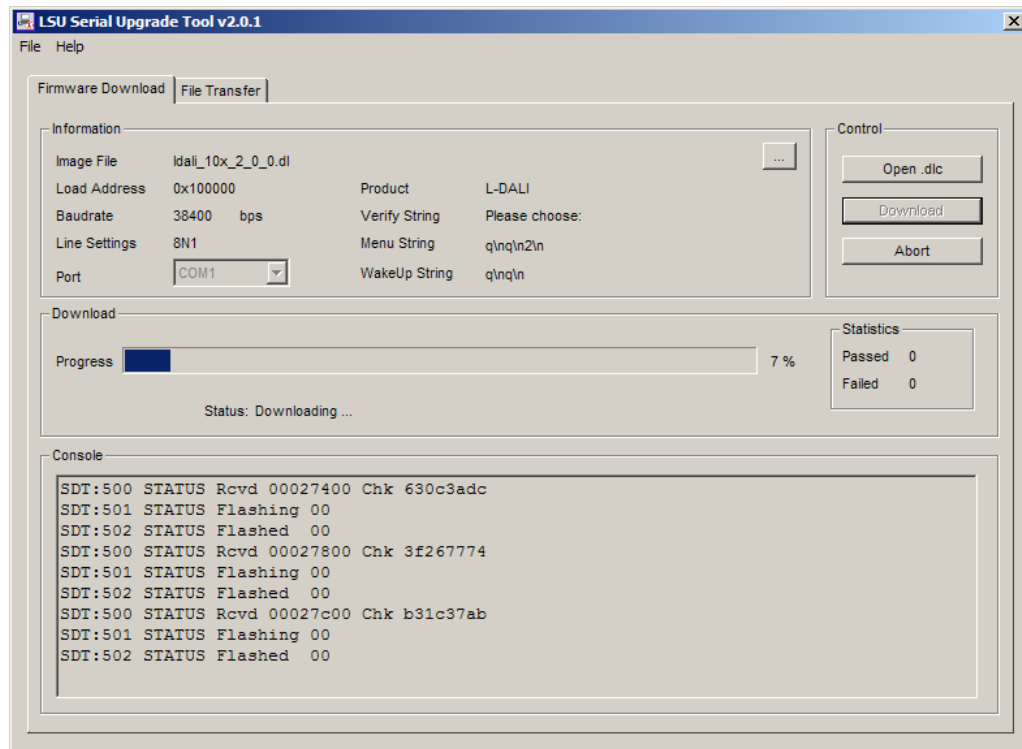

Figure 166: Progress Bar during Firmware Download.
2. If the L-DALI is not connected to COM1 you can change the port to COM2, COM3, or COM4. Make sure that the product shown under “Product” matches the device you are upgrading. Press **Download** to start the download. A progress bar as shown in Figure 166 can be seen.